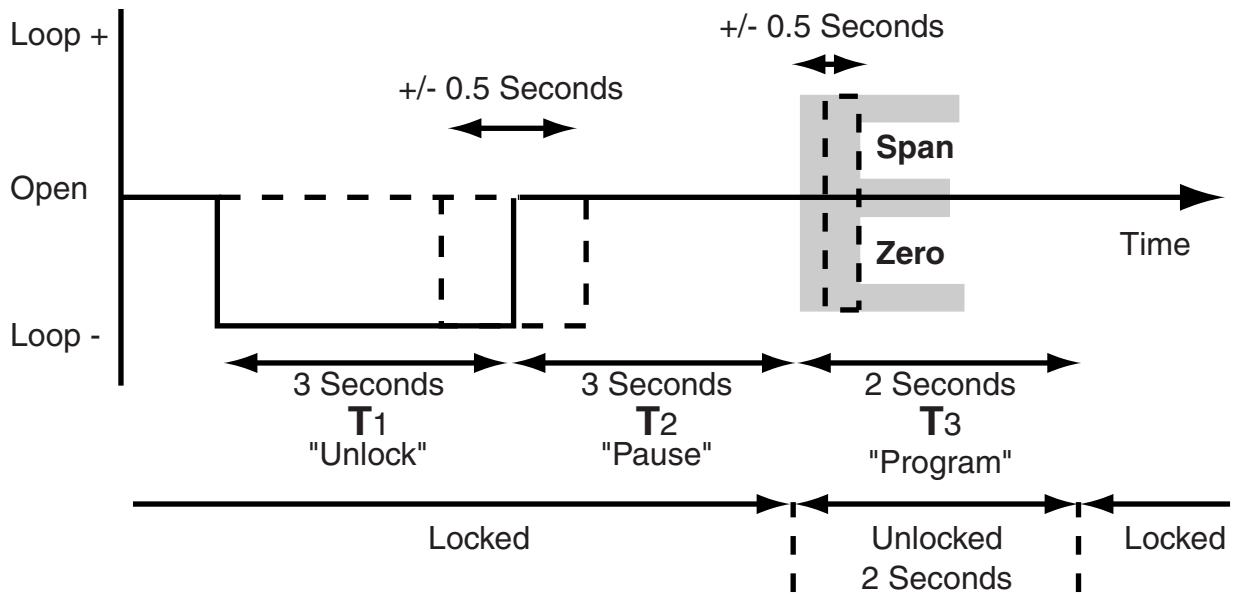

Figure 2-18
- 3.) Unlock the configuration program by “Shorting” the White Program Wire (Blue in EU) to the Black Loop “-” Wire for three (3) seconds. See figure 2-18 for full timing sequence.
- 4.) Release the Short for three (3) seconds
- 5.) Set Zero or Span by “Shorting” either the (4mA) Black Loop “-” Wire (Blue in EU) or by “Shorting” the (20mA) Red Loop “+” Wire (Brown in EU) to the White Program Wire for two (2) seconds.
- 1.) Unlock the configuration program by pressing the Zero pushbutton for three (3) seconds. See figure 2-18 for full timing sequence.
- 2.) Release the Zero pushbutton for three (3) seconds
- 3.) Set Zero or Span by pressing either the Zero pushbutton or by pressing the Span pushbutton for two (2) seconds.
- 4.) The DM330 Series “Locks” the programming menu after ten (10) seconds from time of entering the program.